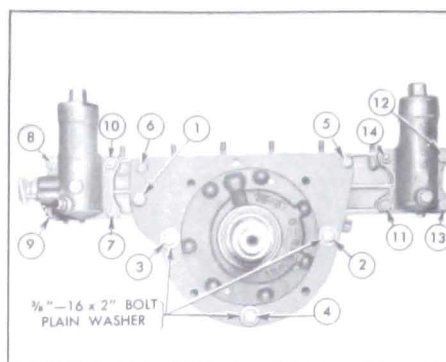

Figure 5-120—Reaction Shaft Flange and Accumulator Tightening Sequence
5. Install 3 special bolts (3/8" - 16 x 2") with plain washers in positions marked 2, 3, 4 in Figure 5-120. These bolts are for assembly purposes only. Install regular pump cover bolts and lock washers at positions marked 1, 5, 6. Coat threads of bolts No. 5 and 6 with Permatex No. 3.
12. Referring to Figure 5-120, tighten all bolts and nuts (1 through 14) to 5 ft. lbs. torque in the numerical sequence shown. Following the same sequence again, tighten bolts 1 through 4 to 35-40 ft. lbs. and the remaining bolts and nuts to 20-25 ft. lbs.